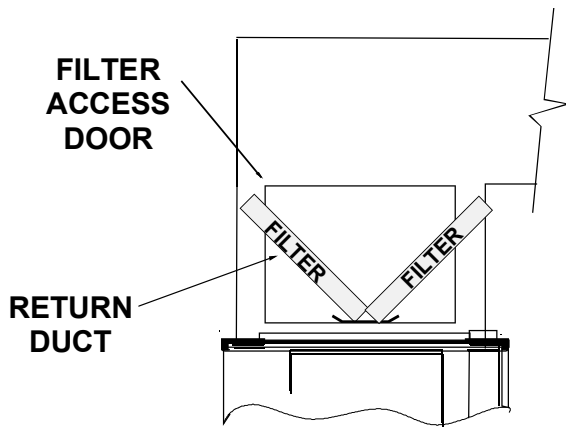

Figure 38
5. To reinstall the filters, first **MAKE CERTAIN THE AIRFLOW DIRECTION ARROW POINTS TOWARDS THE FURNACE**. Then insert the filters from the left side of the blower. Starting with the right filter, push the filter into the plenum so that the bottom of the filter rests in the filter rack and the upper edge rests against the side of the plenum. Repeat with the left filter (Figure 38).